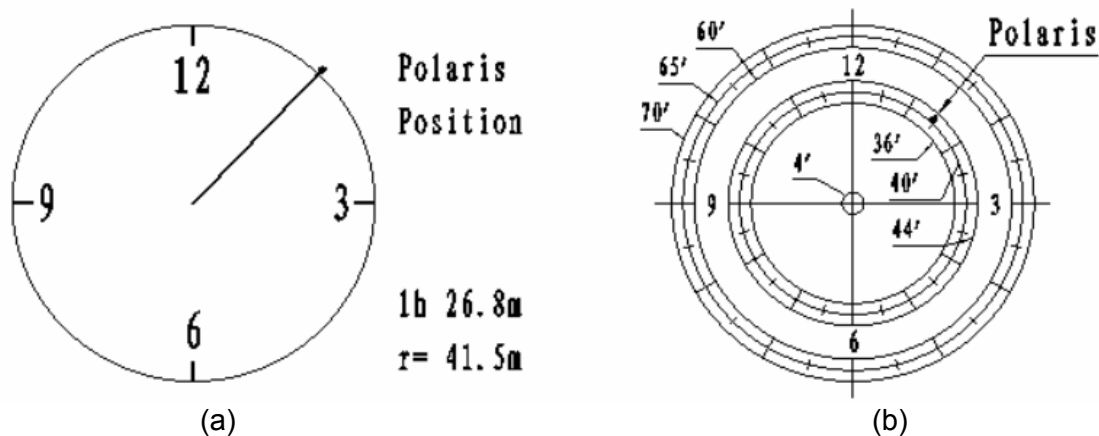

Figure 14
- (1) Turn on the mount power by pressing the **On/Off** switch on the R.A. unit. After “**GPS OK**” is shown in the upper right corner of the HC, the LCD will display the Polaris Position as shown in Figure 14 (a). If you are practicing inside or when there is no GPS signal, you can view this chart by pressing the **MENU** button, then select “**Align**” and “**Polaris Position**”. For example, on May 30, 2010, 20:00:00 in Boston, US (Lat N42°30'32” and Long W71°08'50”), 300 min behind UT, the Polaris Position is 1hr 26.8m and $r = 41.5m$, as shown in Figure 14 (a).
- (2) Look through the polar scope; make sure the polar scope is not blocked by the DEC axle. The 12 o'clock indicator of the Polar Scope Dial must be positioned on top.
- (3) Follow the **Polar axis adjustment** procedure (**not the hand controller**) to adjust the mount in altitude (latitude) and azimuth (heading) direction and place Polaris in the same position on the Polar Scope Dial as indicated on the HC LCD. In this case, the Polaris will be located at a radius of 41.5' and an angle of 1 hour 26.8 minute, as shown in Figure 14 (b).